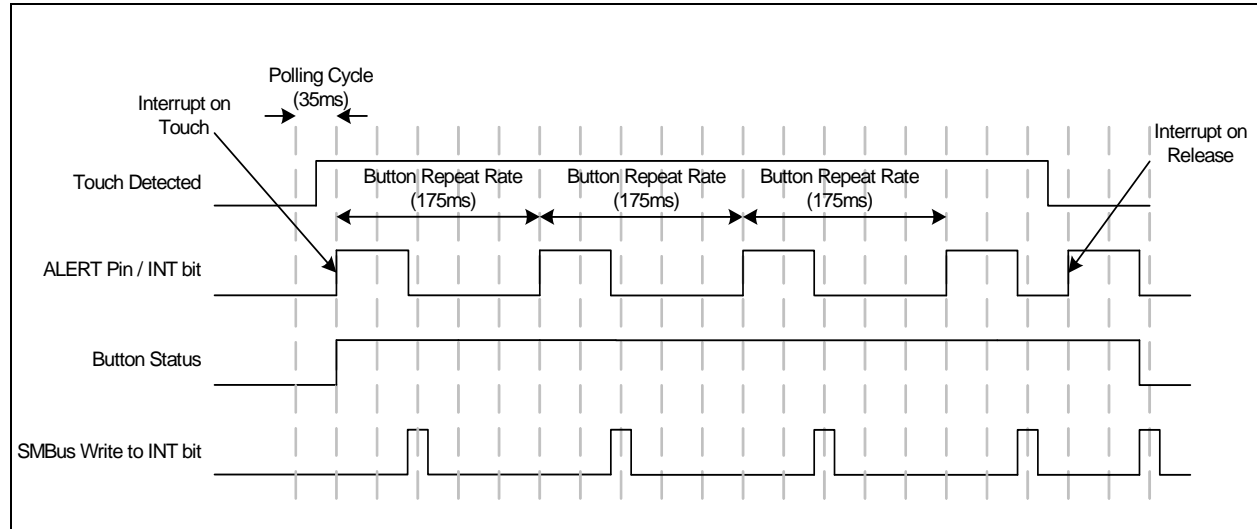

Figure 4.2 Sensor Interrupt Behavior - Repeat Rate Enabled
2. If the repeat rate is enabled (see Section 5.6), then, so long as the touch is held, another interrupt will be generated based on the programmed repeat rate (see Figure 4.2).